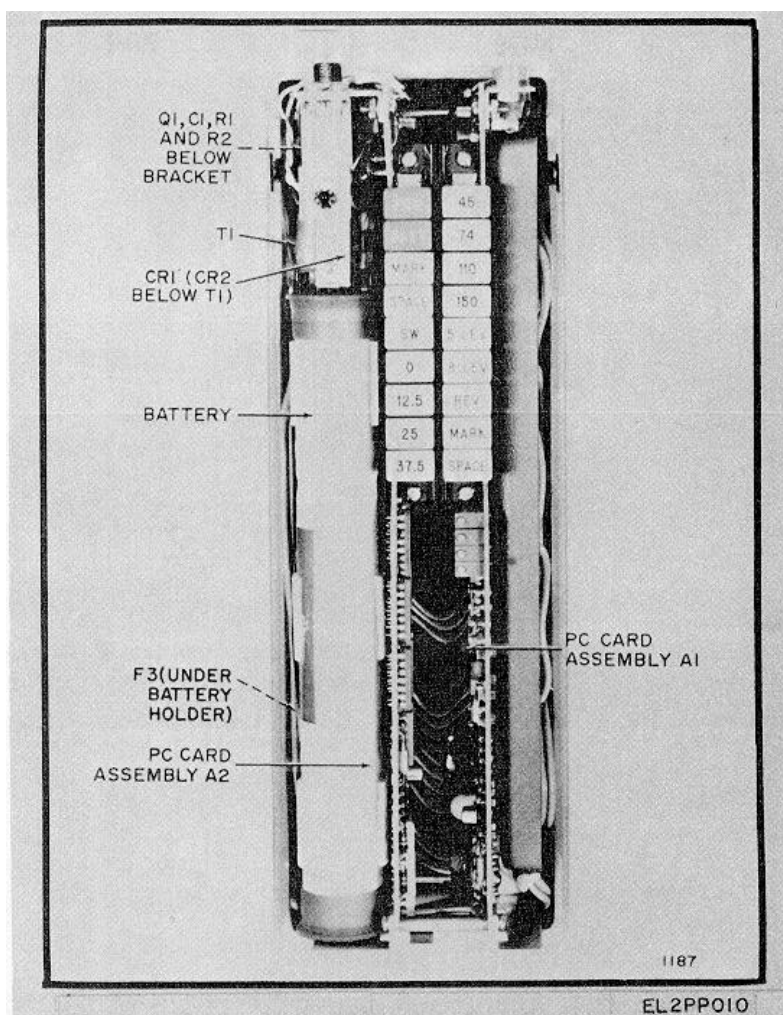

Figure 4-4. Pattern Generator, Top View, Component Location.
on PC-card A1 (see fig. 4-2; the appropriate frequency for each baud-rate is listed below (if the frequency for a selected baud-rate is not as specified, adjust the appropriate control to obtain the proper frequency-see fig. 4-4 for locations of adjustment controls A1R1-A1R4).
f. AC Power Input. The Pattern Generator can operate with either a 115- or 230-volt ac input, depending on power transformer T1 strapping; see fig. 4-4. To operate from:
- (1) 115 volts, strap T1 terminals 1 to 2, and 3 to 4.
- (2) 230 volts, strap T1 terminals 2 to 3.